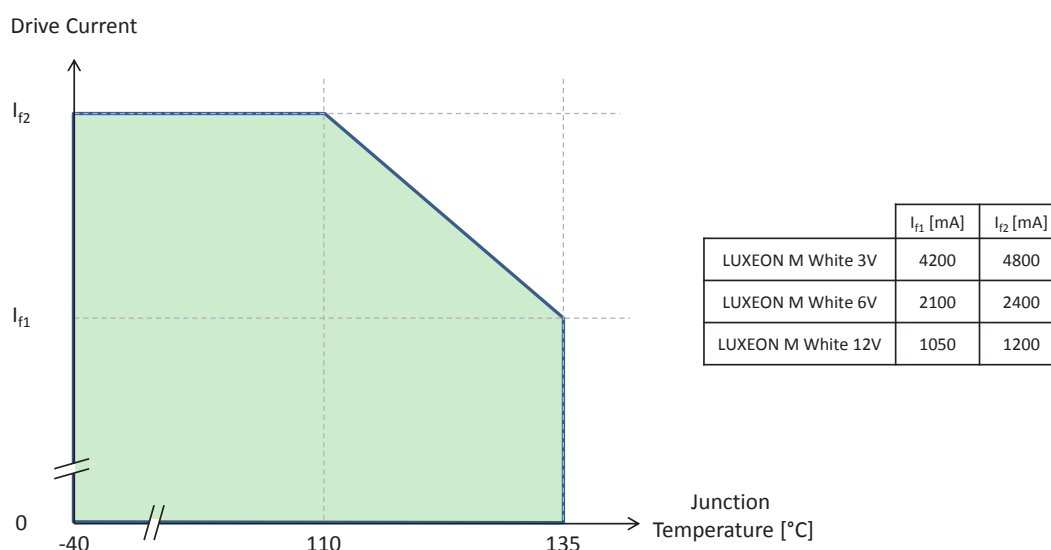

Figure 1: Maximum permissible operating conditions for LUXEON M White.
- See Figure 1 for more details on the maximum permissible operating conditions for LUXEON M White.
- Residual periodic variations due to power conversion from alternating current (AC) to direct current (DC), also called "ripple", are acceptable if the following conditions are met:
**Notes for Figure 1:**